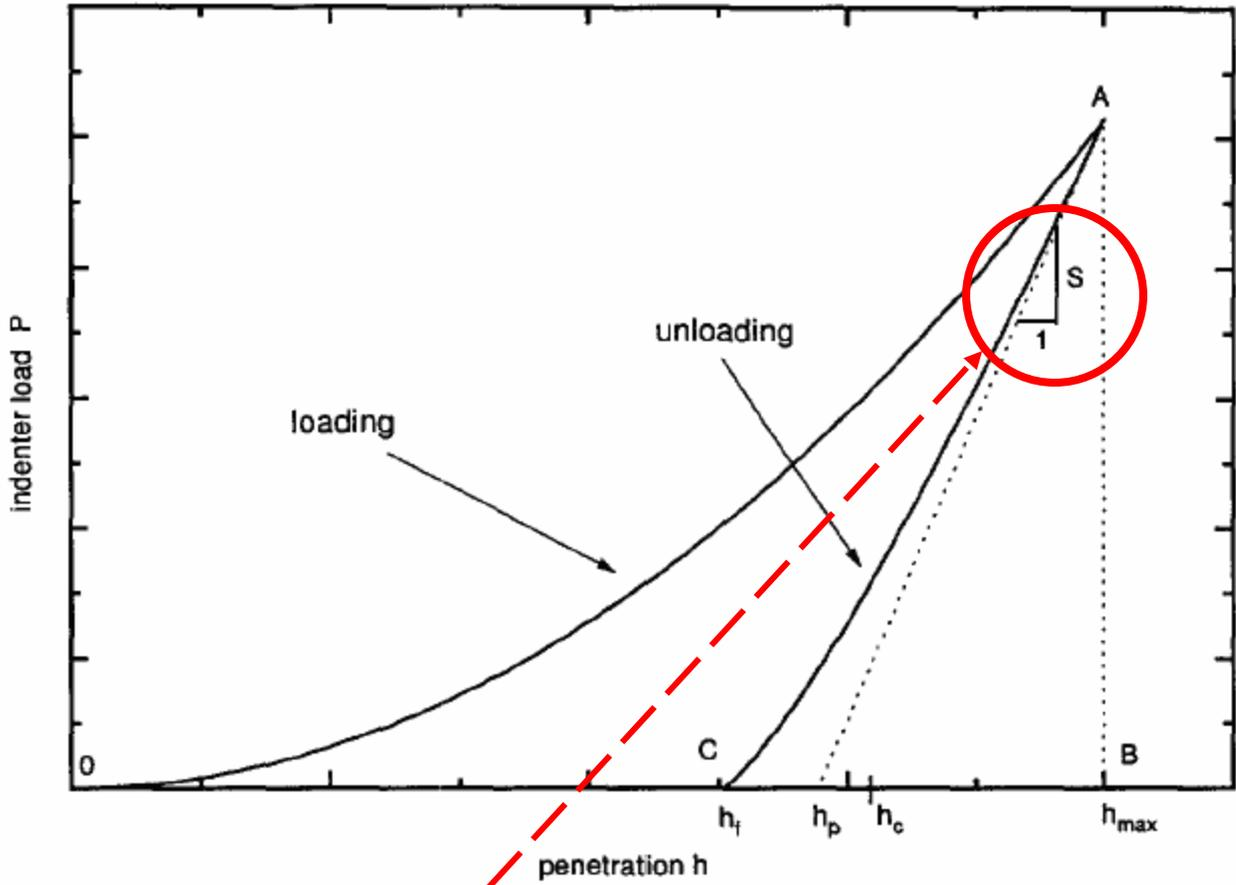

Fig. 2. General load penetration curve.
**Fig. 2.** Block diagram of FM mode AFM system operated in UHV. The piezo scanner and the laser/PSD are enclosed in a UHV chamber system. The laser signal is amplified through the pre-amp and fed into two feedback systems for the amplitude and frequency regulation systems. The amplitude is set to a pre-determined setpoint  $A_0$ . The frequency shift ( $\Delta f$ ) is kept constant to acquire topographic images of the sample surface.